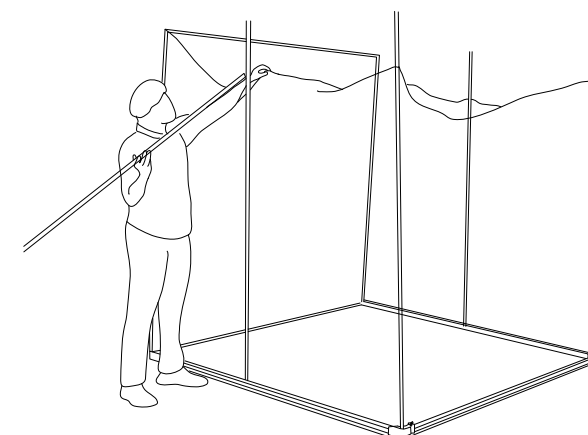

Fig. 4
**Step 9:** With the 1m orange poles (Item F), attach OUTSIDE THE BOOTH between the tops of the side white poles. Fig. 4 & Fig. 4a (below)